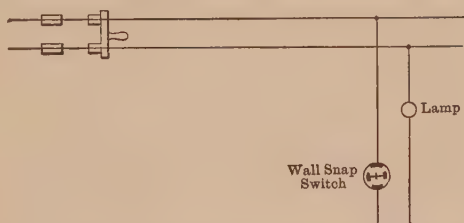

FIG. 212. The lamp is controlled from a single wall switch.
**126. The Control of Incandescent Lamps.** Fig. 212 represents the ordinary wiring of a lamp when it is desired to turn it off or on from a single wall switch.